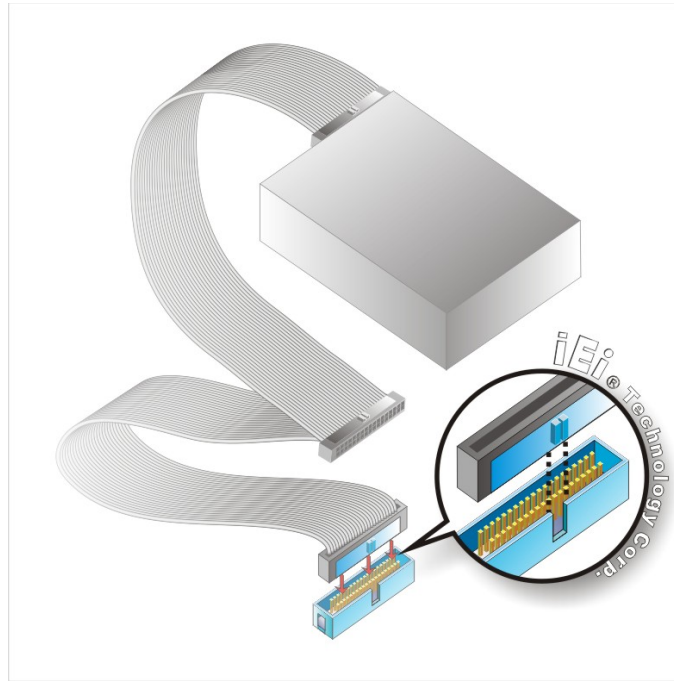

Figure 5-15: IDE Cable Connection
- Step 2:** **Insert the connector.** Connect the IDE cable connector to the onboard connector. See Figure 5-15. A key on the front of the cable connector ensures it